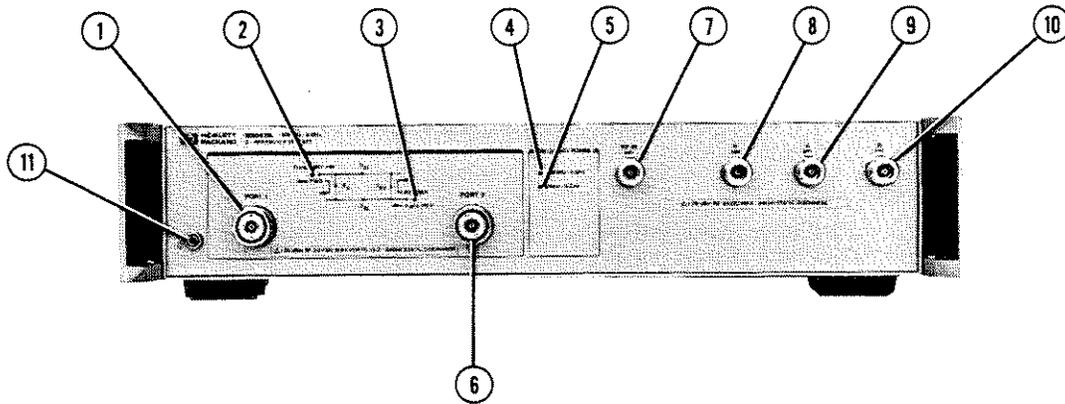
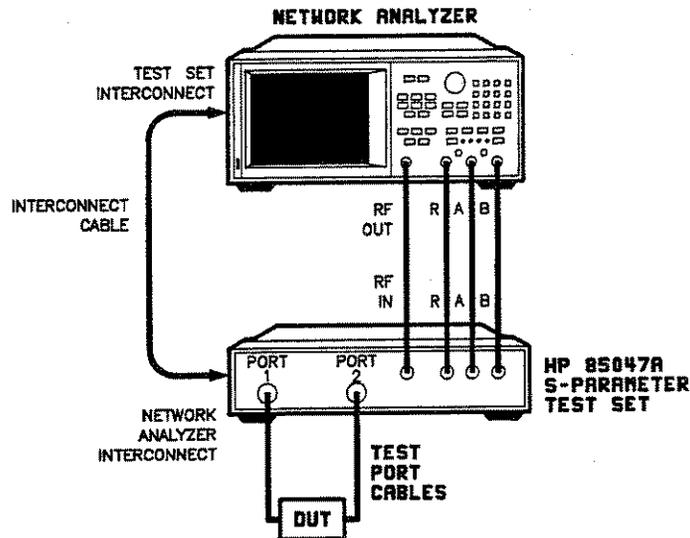

Figure 3. Front Panel Features
Figure 6. Typical Measurement Setup
This section illustrates the features and functions of the front and rear panels of the HP 85047A (Figures 3 and 4). Figure 5 depicts the RF signal path through the test set for each of the four S-parameter measurements. Figure 6 shows a typical test set measurement setup.
1. Connect the equipment as shown in Figure 6 and turn on the network analyzer but do not connect the DUT. Instead, connect the load to port 1 of the test set.